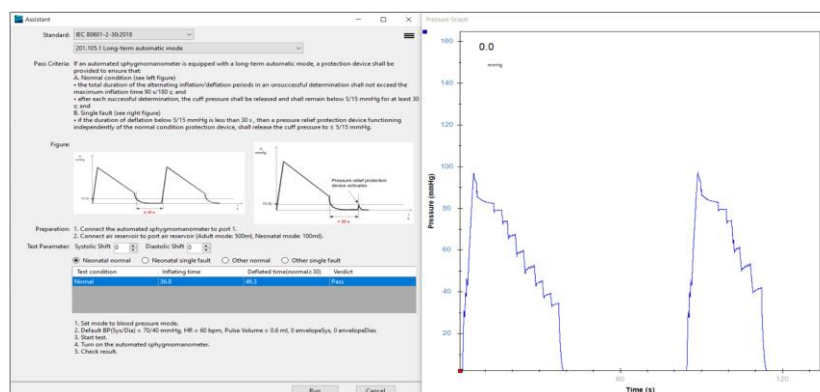
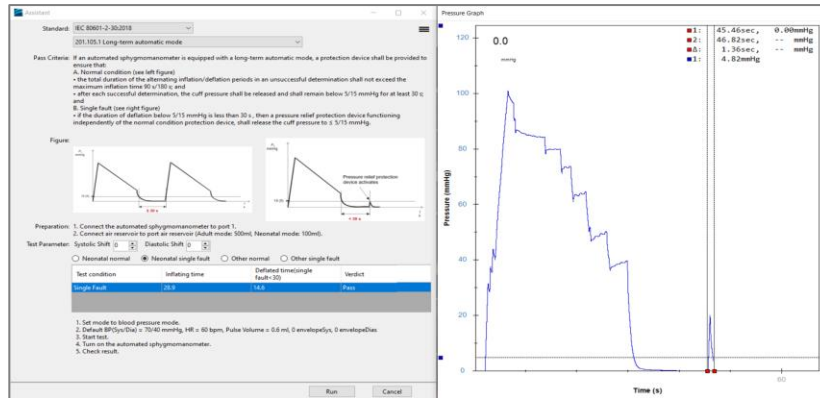

Figure 6: Normal Status of 201.105.1 Long-Term Automatic Mode Test Item
Figure 7: Single Fault Condition of 201.105.1 Long-Term Automatic Mode Test Item
As shown in Figure 6 and Figure 7, the steps of the Standard Assistant Software are:
- B. From **Pass Criteria** and **Preparation**, we know that when the blood pressure monitor runs long-term automatic cycle measurement, it not only requires a protection mechanism under normal conditions, but also requires a protection mechanism (second layer of insurance) in the event of a single failure. Because the first requirement under normal conditions (maximum inflating time), this test item will be changed from the second requirement under normal conditions (cuff pressure must be maintained for at least 30s and no more than 5 /15 mmHg) starts. The test environment is the same as 201.11.8.101. After each row of parameters is measured, the operator can manually fill in the reading value on the blood pressure monitor into the table in Figure 6.
- D. Observe the pressure-time curve in Figure 6. After a successful step-down blood pressure measurement, the cuff pressure is maintained for 46.3 s (more than 30s) before the second blood pressure measurement is started. Therefore, the Verdict field automatically Judge Pass; otherwise, if the maintenance time is less than 30s, Fail will be displayed.
- F. Observe the pressure-time curve in Figure 7. After a successful step-down blood pressure measurement, the cuff pressure should be maintained for at least 30 seconds and no longer than 5 seconds. mmHg, but unexpectedly it only lasted 14.6s (less than 30s) before inflating early, which was a single fault condition. At this time, if the protection mechanism activates and releases the cuff pressure to 5 in a very short time mmHg or less (Because the test item is not specified in the original text, the blood pressure simulator is preset to be within 3 seconds), **Verdict** column will automatically determine Pass; otherwise, Fail will be displayed.